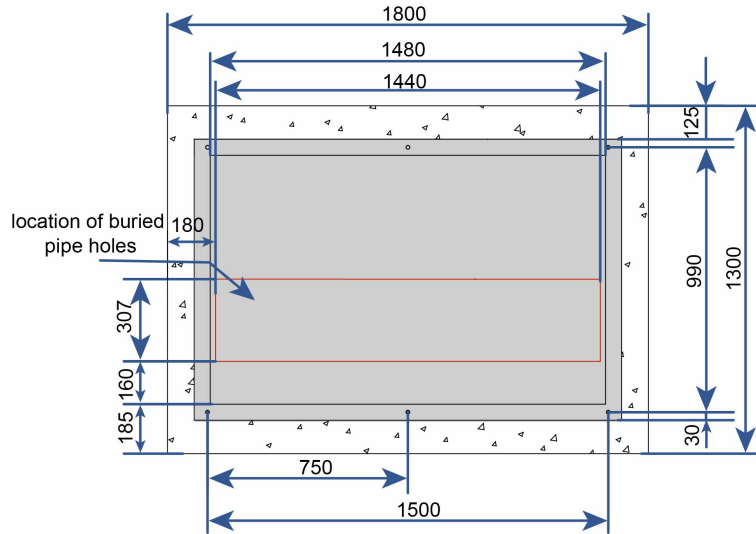

Figure 3-5 Foundation Top View (mm)
- Step 2** Use a marker to mark the expansion bolt drilling positions on the foundation. For details, see Figure 3-5 Foundation Top View \(mm\).